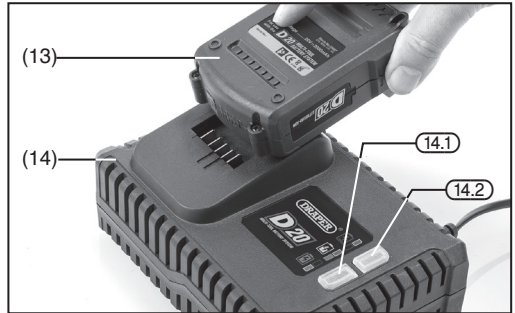

FIG. 9
7.4 BATTERY PACK CHARGING – FIGS. 9 – 10